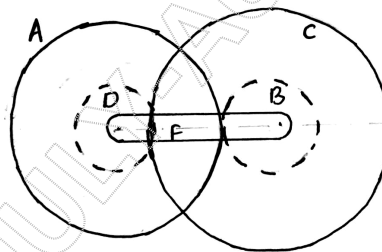

Fig Q8(b)
b. In a reverted epicyclic train, the arm F carries two wheels A and D and a compound wheel B-C as shown in Fig Q8(b). The wheel A meshes with wheel B and the wheel D meshes with wheel C the number of teeth on wheel A, D and C are 80, 48 and 75 respectively. Find the speed and direction of wheel D, when wheel A is fixed and arm F makes 200rpm CW.